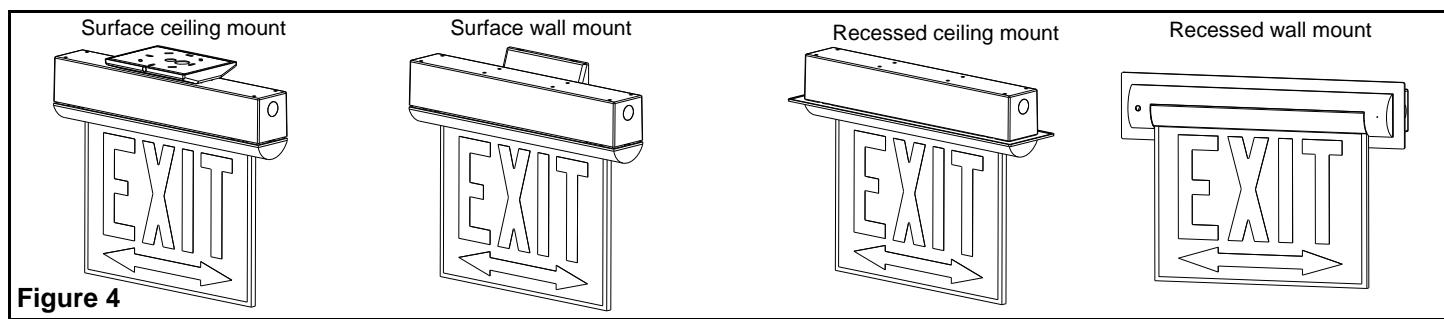

Figure 4
1. The trim plate module comes assembled for surface mount or recessed ceiling mount installation (figure 4). If surface or recessed ceiling mount, continue with step 3.